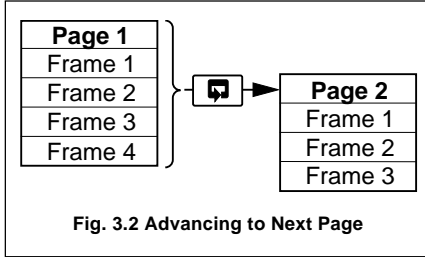

Fig. 3.2 Advancing to Next Page
3.3 Use of Controls – Fig. 3.2 to 3.6